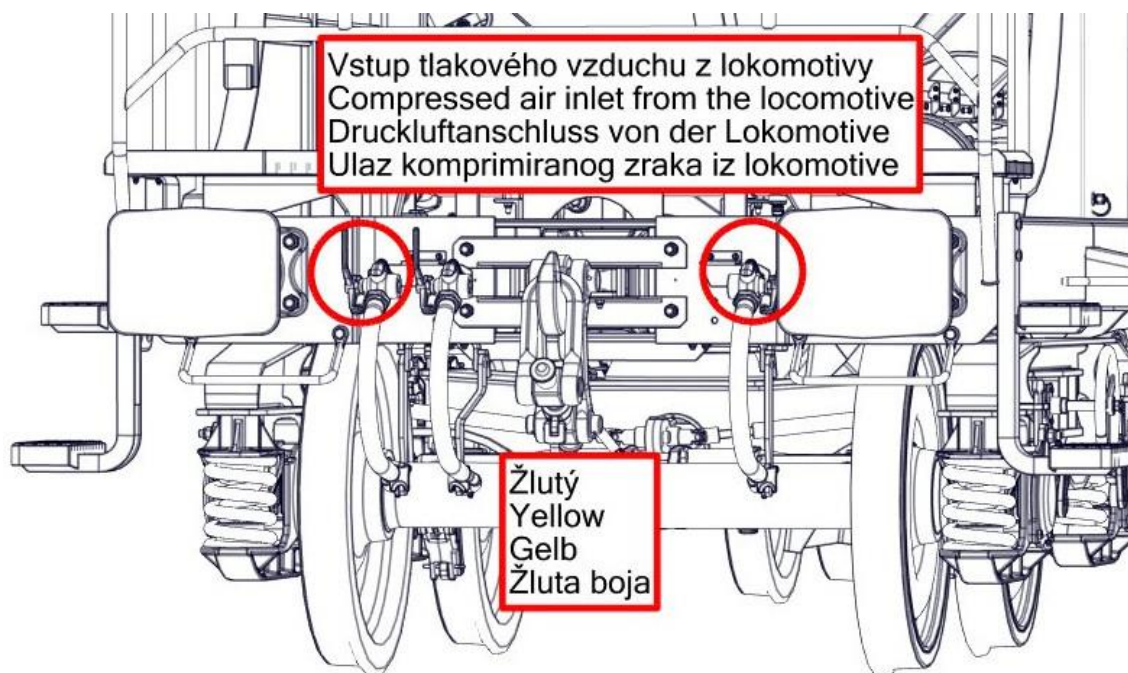

Fig. 26
- supply pipeline (10 bar - yellow) must be connected by hose couplings after the locomotive - Fig.26 or after the quick-clamp to the compressor - Fig. 27 (the compressor must meet the conditions for the operation of rolling stock)
- in case of connection through hose couplings, open the valve (yellow) for a single wagon feed, or all valves of the feed line (yellow) for feeding the wagons in a train - Fig. 26
- the auxiliary air tank is used for limited control of the flaps without the possibility of connecting the wagon to the locomotive - Fig. 26 or to the compressor - Fig. 27
- connect the supply pipe (10 bar - yellow) via hose couplings behind the locomotive - fig. 26 or behind the quick coupling to the compressor - fig. 27
- open the tap (yellow) to power one car, or all the taps of the power supply pipe (yellow) to power the cars connected to the train - Fig. 26